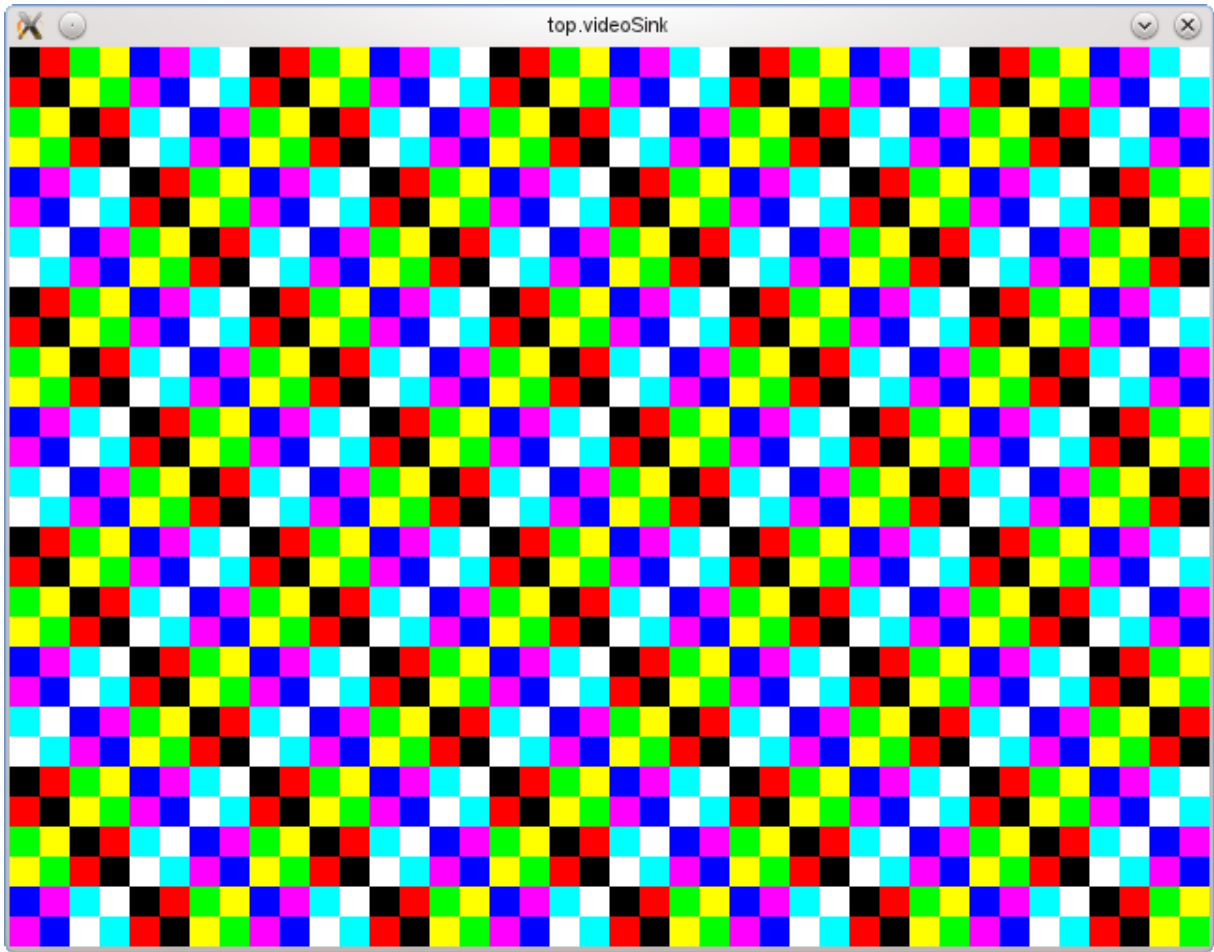

Figure 7: Color check board generated by VideoSourceColorCheckBoard
Now, start the *Video source CCB to sink Example* run configuration as depicted in Figure 6b. As depicted in Figure 6c and underlined in green, the hwsim simulator loads the shared library (i.e., the plugin library) *libhwVideoSourceColorCheckBoard.so* that provides the VideoSourceColorCheckBoard video source. This video source should generate the check board pattern depicted in Figure 7. In general, the hwsim simulator will load all shared libraries matching the *<workspace*
– VideoSourceColorCheckBoard – only outputs a test image, e.g., as seen in Figure 7. You can use the CCB test design to test if you have correctly connected the ZCU102 board and it can output a video stream to your monitor. For this purpose, the hwVideoSourceColorCheckBoard contains the pre-generated *ccb_wrapper.bit* bit file and the *ZCU102Init.sh* script to program the Programmable System-on-Chip (PSoC) with this bit file.
After this, the done led (LD10) should have turned green. Now, change your monitor configuration to display its DisplayPort input. This should result in the test image from Figure 7 being display on the monitor.